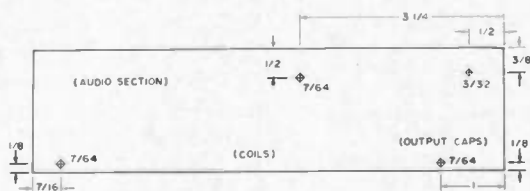

Fig. 3. TX-432 PC board drill guide. All dimensions in inches. Foil side down; component side up.
1. Drill holes in PC board and chassis using Figs. 3, 4 and 5 drill guides.